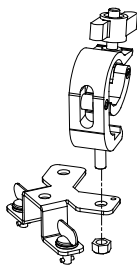
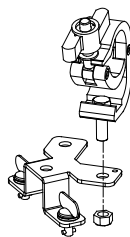

fig. 1
fig. 2
1. Fasten the clamp to the quick-lock fastener with a nut in the direction shown in fig.1 or fig.2.